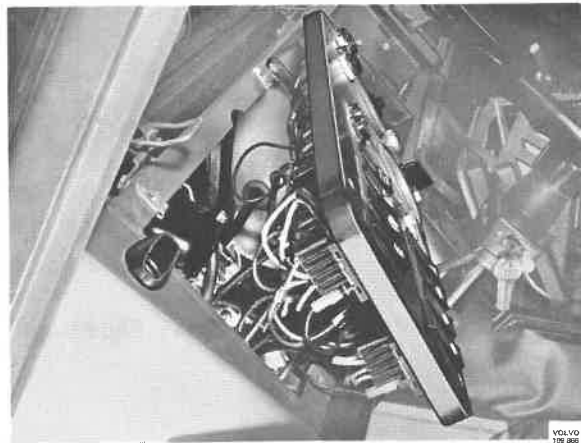

Fig. 52-15. Dashboard folded up
3. Unscrew and fold up the dashboard, see Fig. 52-15.